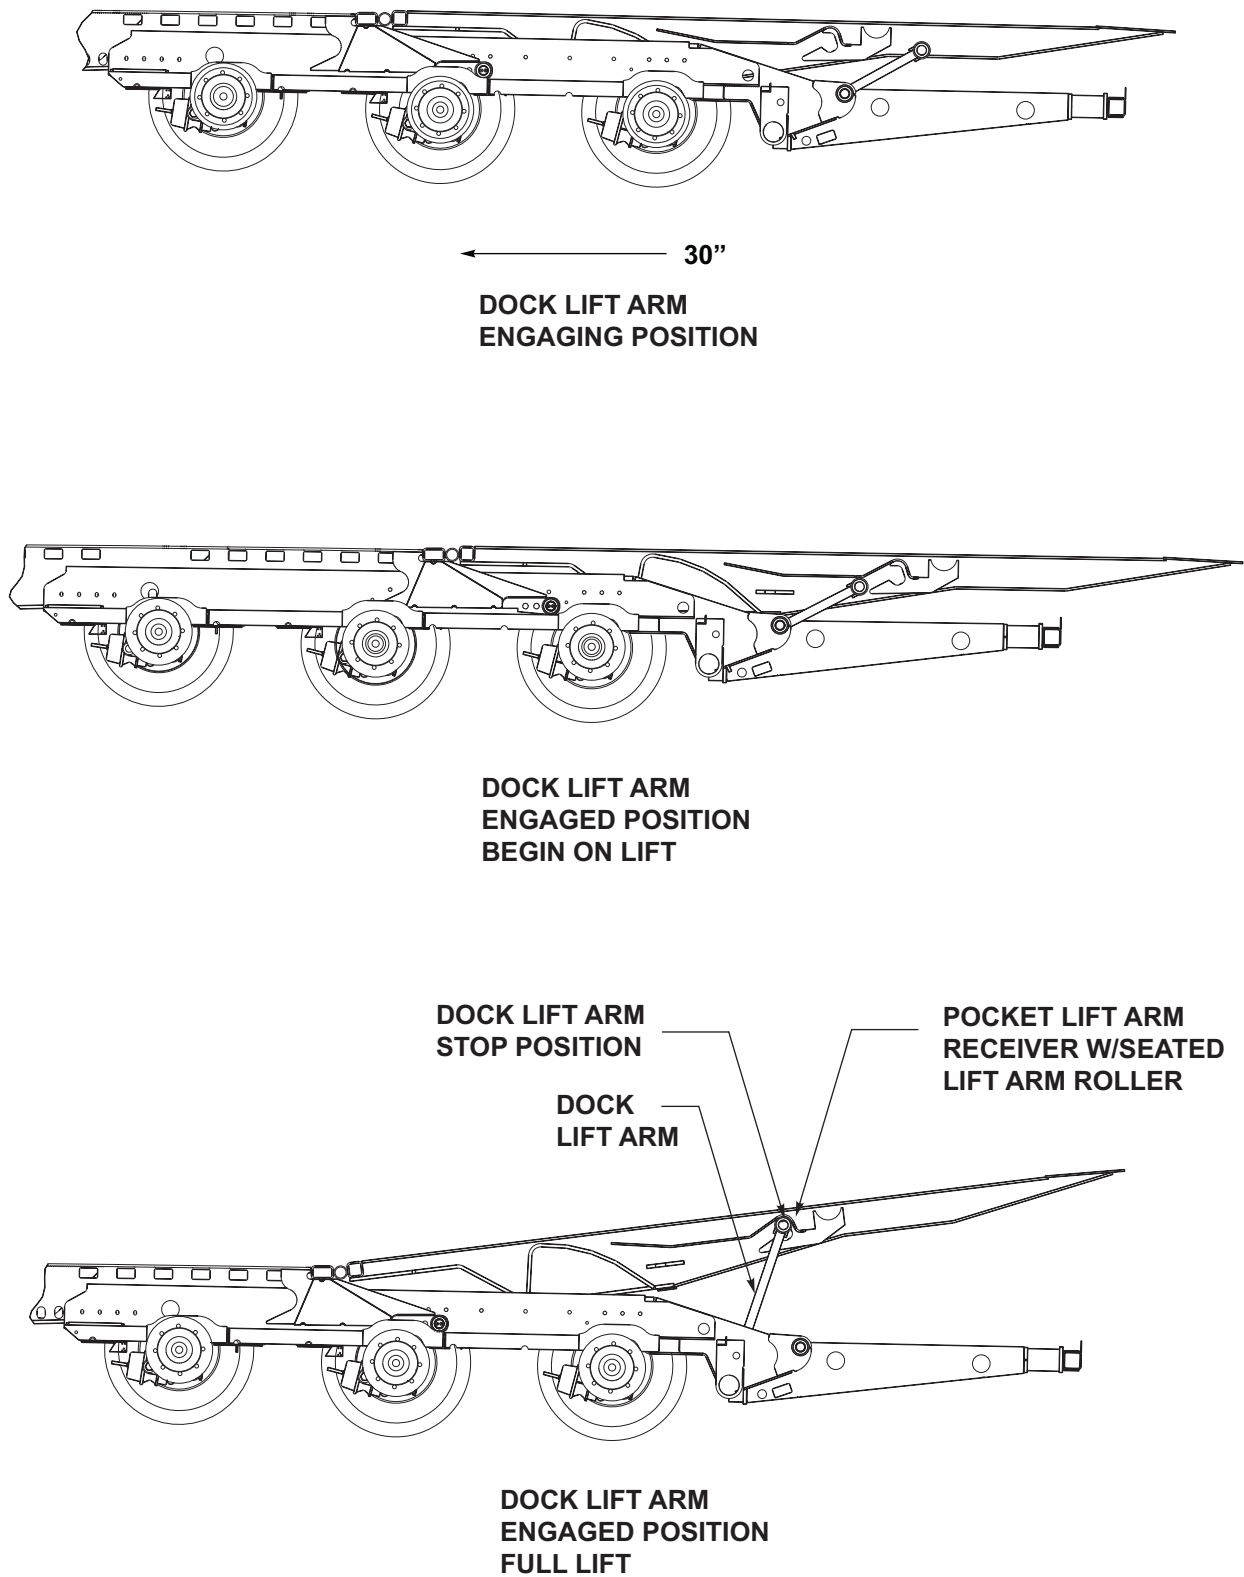

Figure 3-7: Dock Leveler Operation
6. Use Axle/Tail Control Knob to pull undercarriage forward approximately 30" (*See Figure 3-7.*)